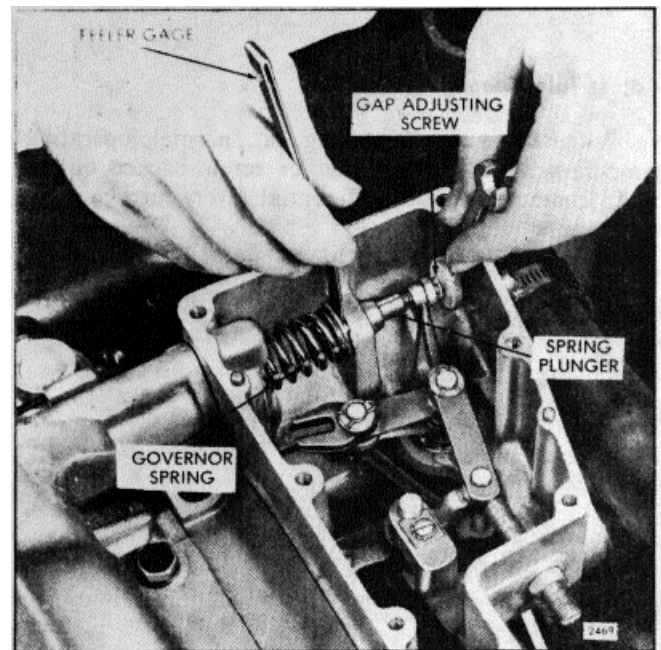

Fig. 1. - Adjusting Governor Gap
5. Insert a .006" feeler gage between the spring plunger and the plunger guide (Fig. 1). If required, loosen the locknut and turn the adjusting screw until a slight drag is noted on the feeler gage.